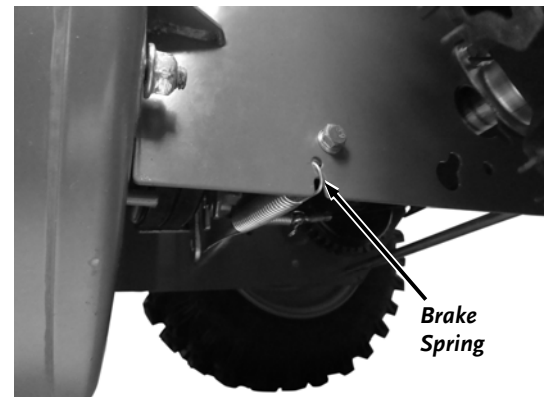

Figure 50
4. Remove the Brake Spring from Frame so the Brake Pad will come away from the Auger pulley, making room for Belt removal (**Figure 50**).
14. Install the Brake Spring to the Frame (**Figure 50**).